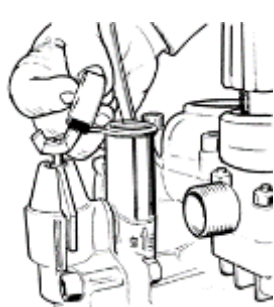

Figure 1
1. Check the oil level while the pump is standing still and sitting horizontally. The oil must reach the level indicated on the sight glass (fig 1). Top up with SAE 20W/50 oil if necessary.